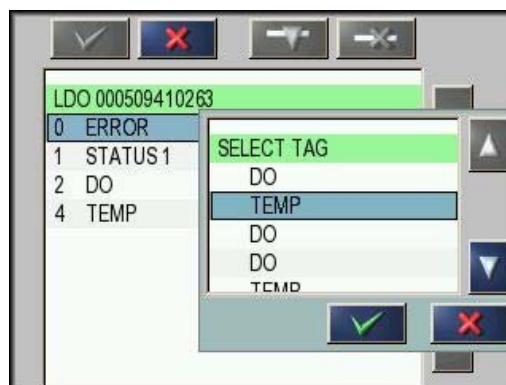

Figure 46 Profibus/Modbus configuration menu—Select tag
- In the Telegram device list, select a tag (for example Error or Status) and press the **ADD** button. The Select tag box with all tags available for the probe is displayed (Figure 46).